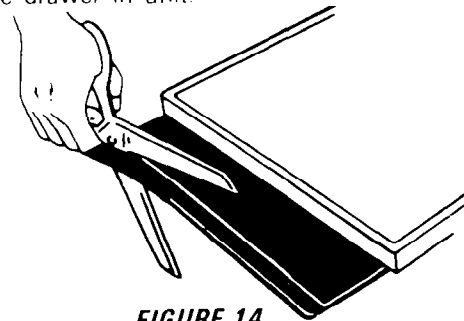

FIGURE 14
5. Use a pair of scissors and cut toe plate along this line. See Figure 14.